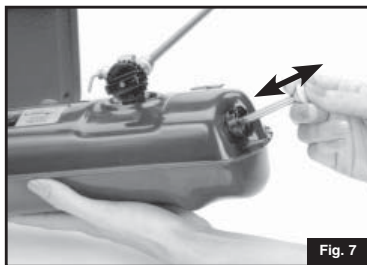

Fig. 7
- Place thumb over hole in pump knob and pump approximately 30 full strokes. (Fig. 7)